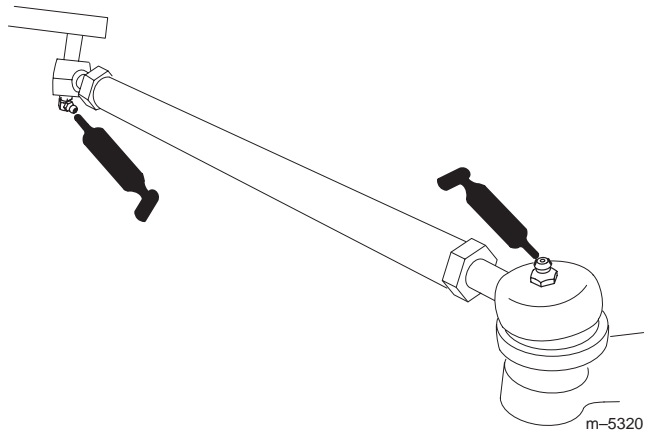
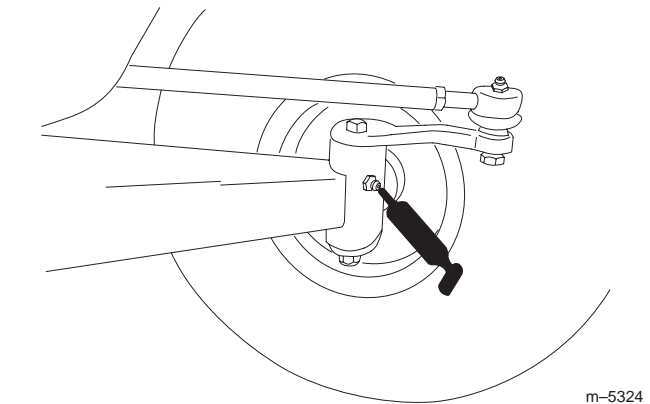

Figure 22
Figure 23
The grease fitting locations are at the tie rod ends (4) (Fig. 22) and the king pins (2) (Fig. 23).